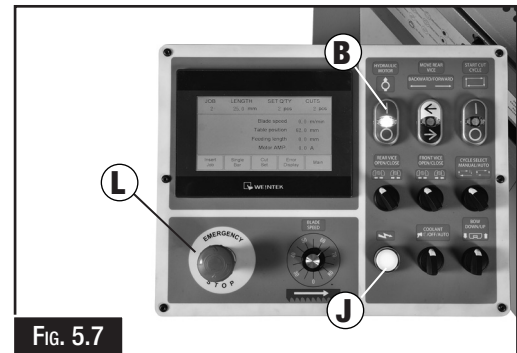

Fig. 5.7
3. Twist to reset emergency stop then power indicator light on controller will light up (J in Fig. 5.7).